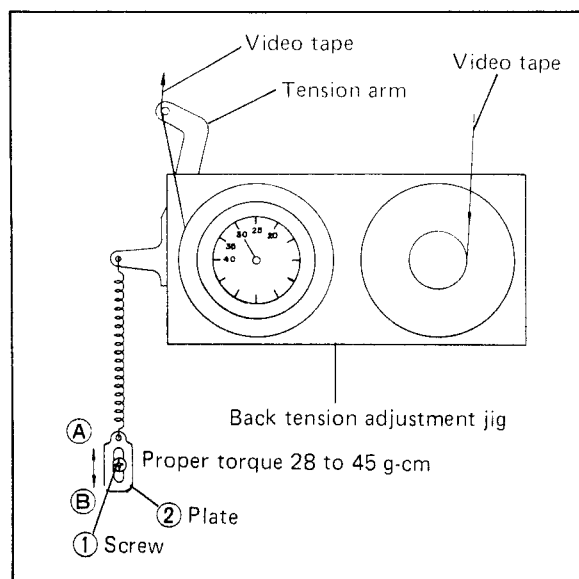

Fig. 5-14 Back tension adjustment
4. If measured back-tension is greater than 45 grams or less than 28 grams, adjust position of adjust plate ② by loosening screw ①, so that the back-tension should be 35 grams, then fasten screw ① as shown in Fig. 5-14.